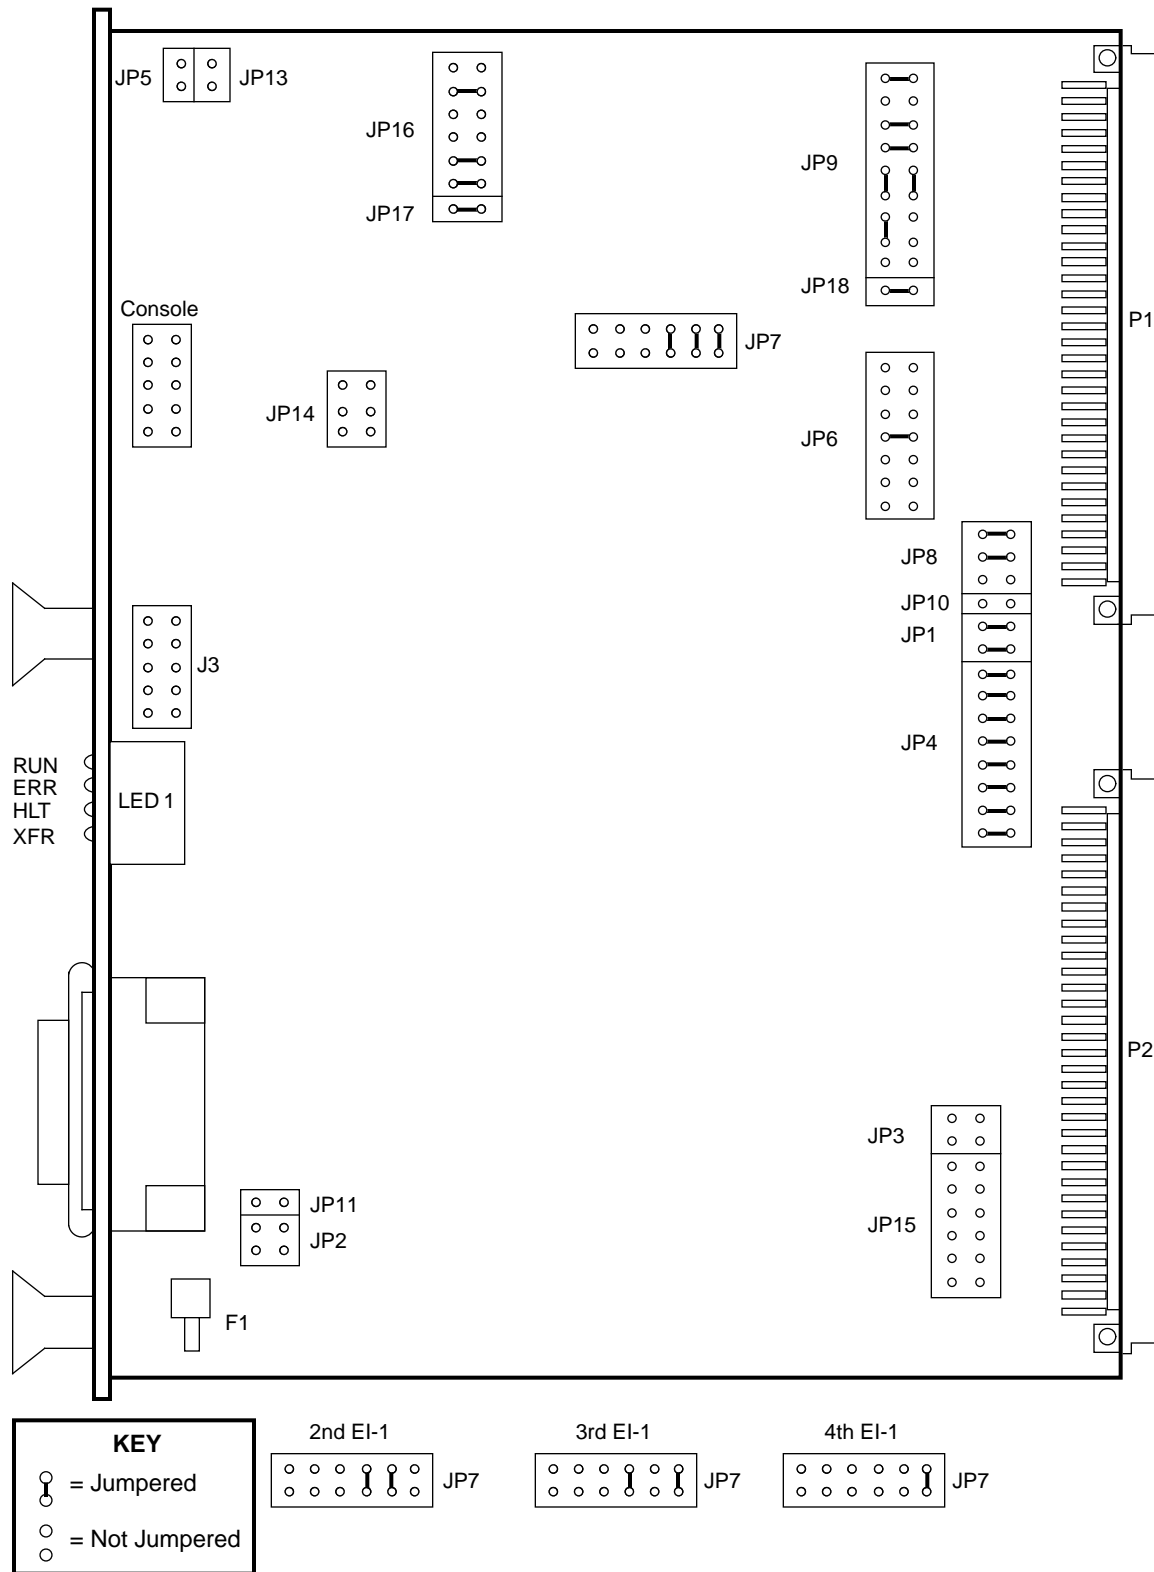

Figure 1. EI-1 Jumper Settings
4. Change any jumpers or switches necessary on the new EI-1 controller board. Refer to Figure 1. The jumper settings on JP7 for the second, third, and fourth EI-1 controllers are given on the bottom of Figure 1.